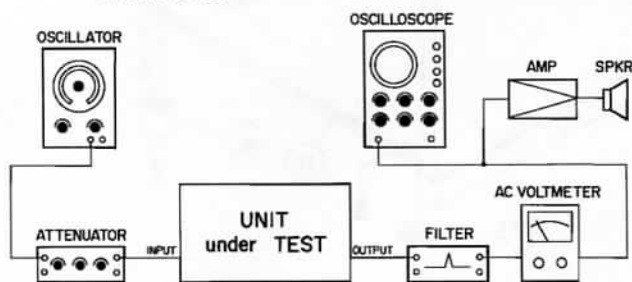

Fig. 6-7
- 1) Connect measuring instruments as shown in Figure 6-7. Use a 1 kHz bandpass filter to check erasing effect.
- 1) Connect measuring instruments as shown in Figure 6-7 (connect a level meter alone to the R-channel and, only for the L-channel, a 1-kHz bandpass filter between terminals OUTPUT and the level meter).